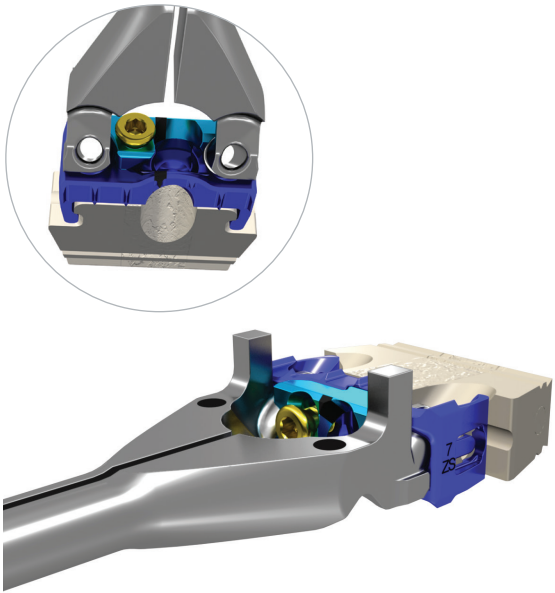

Figure 12
- Ensure that the inserter is fully seated in the plate holes and that the inserter guide positive stop is in contact with the plate. Verify the guide holes and lateral plate holes are aligned and that the inserter axis is perpendicular to the anterior face of the plate (Figure 12).